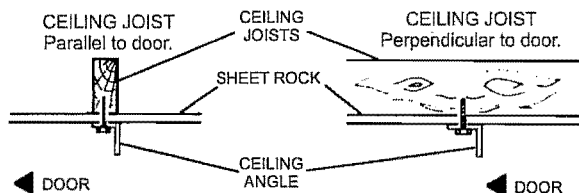

FIGURE 9
- Using a stud finder, locate ceiling joists nearest rear end of horizontal tracks. **NOTE: Figure 9 should help to locate ceiling joists.**